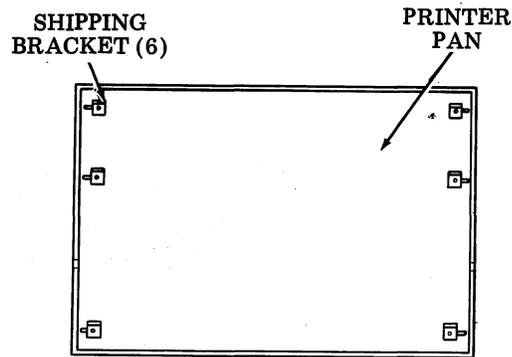
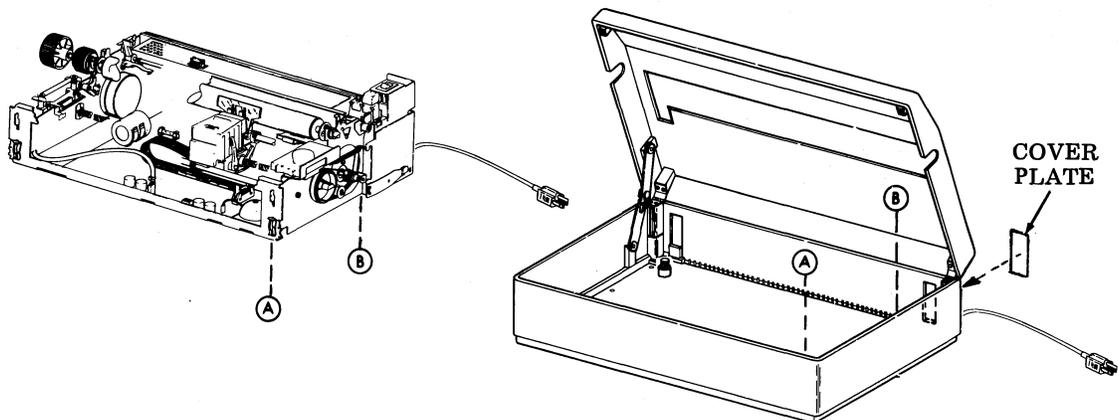

Fig. 5
Fig. 6
- 3.10 Loosen six printer shipping bracket screws from underneath the printer pan. Open the cover and slide the shipping brackets fully outward and retighten screws. See Fig. 5.
- 3.11 Install the printer in the housing on the four vibration mounts. See Fig. 6. Route the power cord through the hole in the right rear of the cabinet and snap in the cover plate. If the printer and its cabinet are to be shipped to another location, loosen the six printer shipping brackets, (see Fig. 5) and slide the brackets inward into the openings on the printer side frames. Tighten the screws. Otherwise, proceed to 3.12.